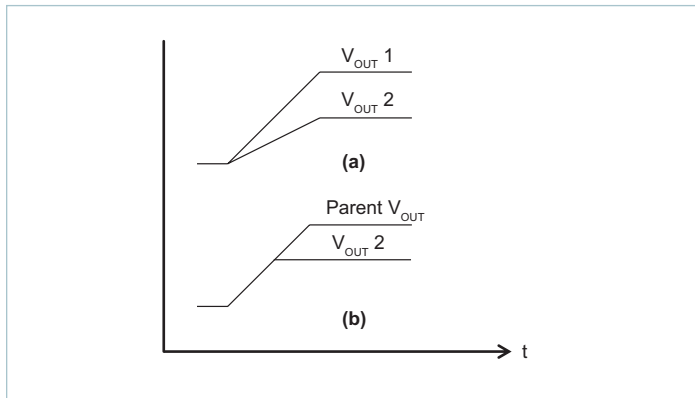

Figure 28 — PI33xx-x1 tracking methods
There is typically either proportional or direct tracking implemented within a design. For proportional tracking between several regulators at start up, simply connect all devices’ TRK pins together. This type of tracking will force all connected regulators to start up and reach regulation at the same time (see Figure 28(a)).
All connected regulators’ soft-start slopes will track with this method. Direct tracking timing is demonstrated in Figure 28(b). All tracking regulators should have their Enable (EN) pins connected together to work properly.